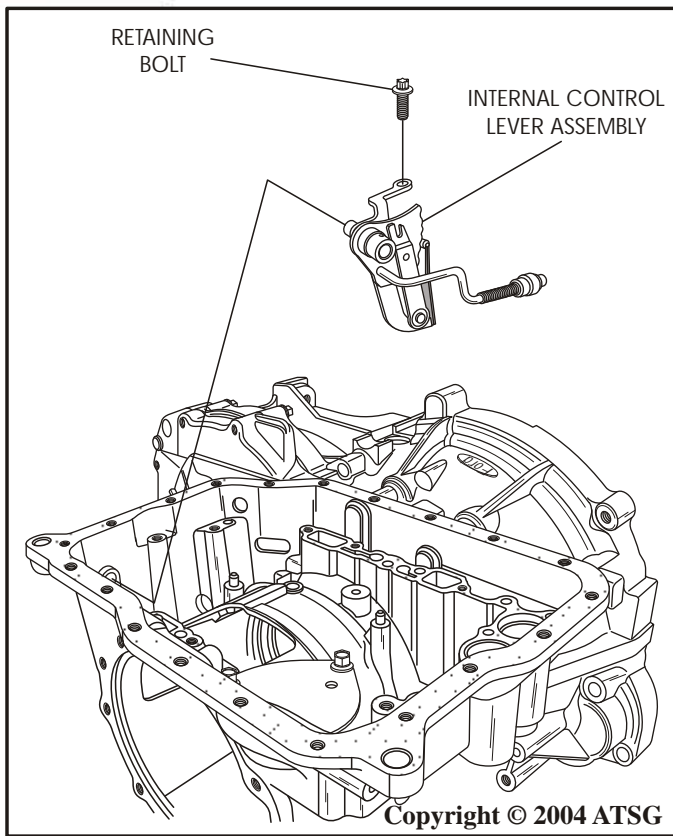

Figure 153
6. Install the internal control lever assembly into transaxle case, as shown in Figure 153, and ensure that parking rod is engaged properly with the parking pawl.